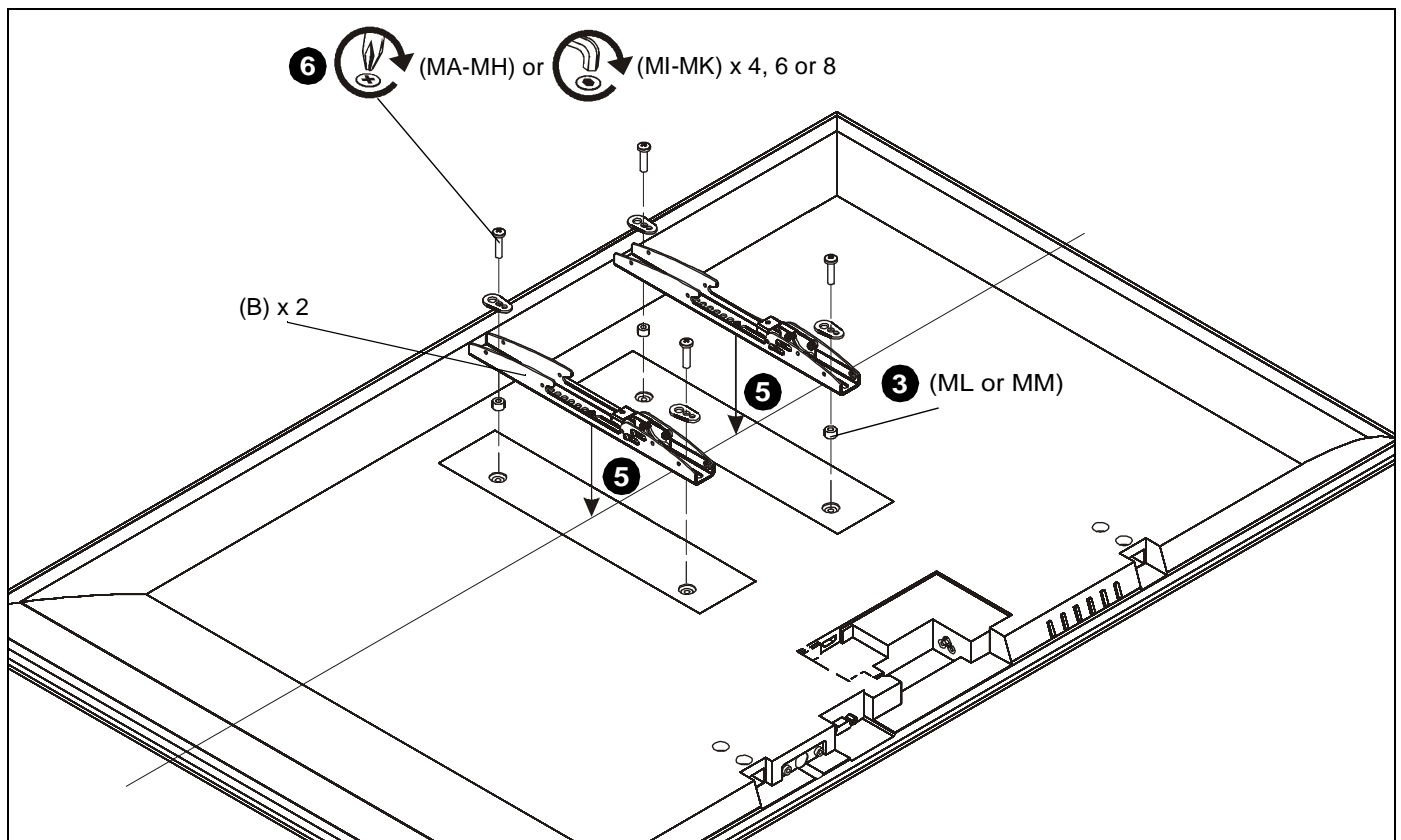

Figure 4
2. Select screw *diameter* by examining hardware (MA-MK) (4mm, 5mm, 6mm or 8mm) and comparing with mounting holes on display. (See Figure 4)
3. Select spacers: (See Figure 4)
- If mounting holes are not recessed and both uprights (B) can lay flat against display, then no spacers are required.
- If mounting holes are recessed, or if protrusions prevent uprights (B) from laying flat, then spacers (ML or MM) must be used.
4. Select screw *length*: (See Figure 4)
- Using your hand, insert **SHORTEST** length screw of selected diameter (MA, MD, MG or MI) through universal washer (MN), uprights (B), selected spacer (ML or MM), into display mounting hole. Do **NOT** thread screw into hole at this time.
**NOTE:** Universal washers (MN) are not needed if using M8 button head cap screws (MI, MJ or MK).
5. Place uprights (B) on display, ensuring: (See Figure 4)
- Center of uprights (B) are as close to the center of the back of display as possible after being installed. Center of bracket is indicated by the diamond-shaped hole.
6. Use selected screws and spacers to install two interface uprights (B) to back of display. (See Figure 4)